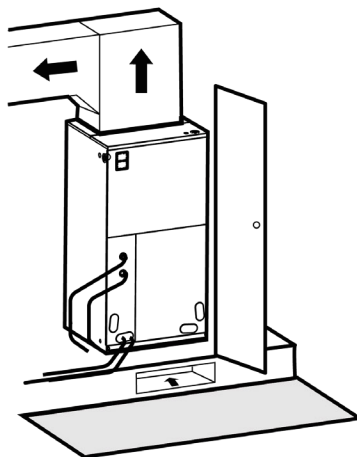

Fig. 2.1
- ⊘ **DO NOT** install the air handler in enclosed areas, such as garages, utility rooms or parking areas. Carbon monoxide producing devices (such as an automobile, space heater, gas water heater, etc.) should not be operated in enclosed areas such as unventilated garages, utility rooms or parking areas because of the danger of carbon monoxide (CO) poisoning resulting from exhaust emissions. If a furnace or air handler is installed in an enclosed area such as a garage, utility room, or parking area, and a carbon monoxide producing device is operated therein, there must be direct ventilation to the outside. Adequate ventilation is necessary to avoid the danger of CO poisoning which can occur if a carbon monoxide producing device continues to operate in an enclosed area. **If these warnings are not followed, Carbon monoxide emission can be (re)circulated throughout the building from the air handler causing serious illness including permanent brain damage or death.**
- If air handler is installed as **Fig. 2.1**, the air handler should be concealed in a specific room or space and make sure the air handler is not accessible to the general public.